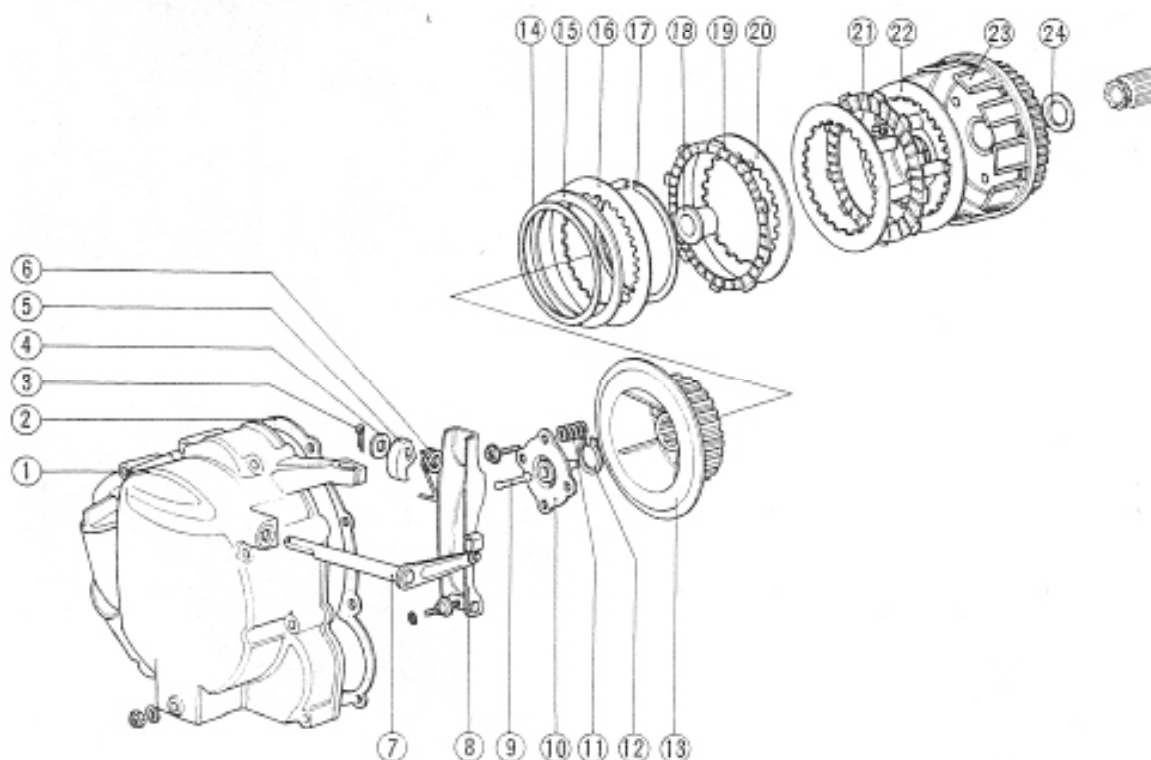

Fig. 3-30
② Clutch disc spring
3. Alternately install the friction discs and clutch plates to the clutch outer, and finally install the 8mm friction disc (see ⑥, Fig. 3-30).